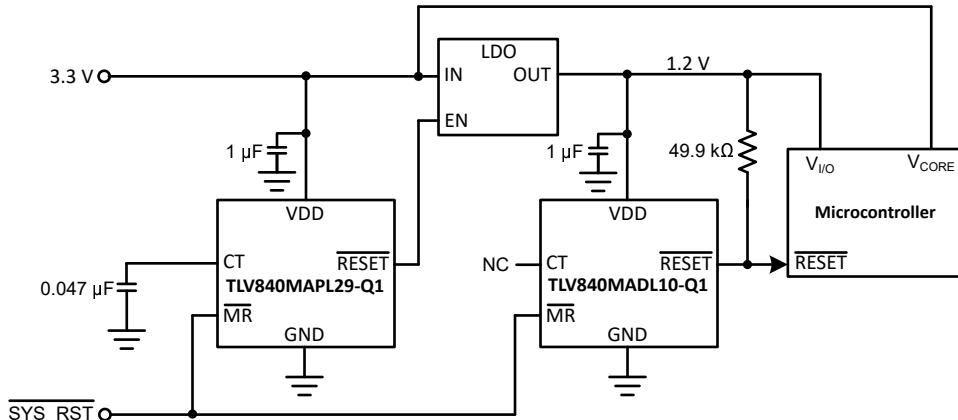

Figure 9-1. TLV840-Q1 Voltage Rail Monitor and Power-Up Sequencer Design Block Diagram
A typical application for the TLV840-Q1 is voltage rail monitoring and power-up sequencing as shown in Figure 9-1. The TLV840-Q1 can be used to monitor any rail above 0.9 V. In this design application, two TLV840-Q1 devices monitor two separate voltage rails and sequences the rails upon power-up. The TLV840MAPL29-Q1 is used to monitor the 3.3-V main power rail and the TLV840MADL10-Q1 is used to monitor the 1.2-V rail provided by the LDO for other system peripherals. The RESET output of the TLV840MAPL29-Q1 is connected to the enable (EN) input of the LDO. A reset event is initiated on either voltage supervisor when the VDD voltage is less than V_{IT^-} . For a system-wide reset event, both MR pins are tied to the SYS_RST. For the purpose of this application, the design detail on MR are not covered. For more information on the function of MR, please see Section 8.3.3